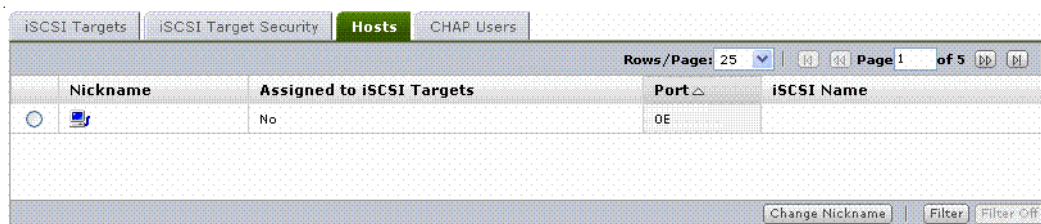

Figure 6-45: iSCSI Target window — Hosts tab
1. From the iSCSI Targets window, click the **Hosts** tab as shown in Figure 6-45 on page 6-52.